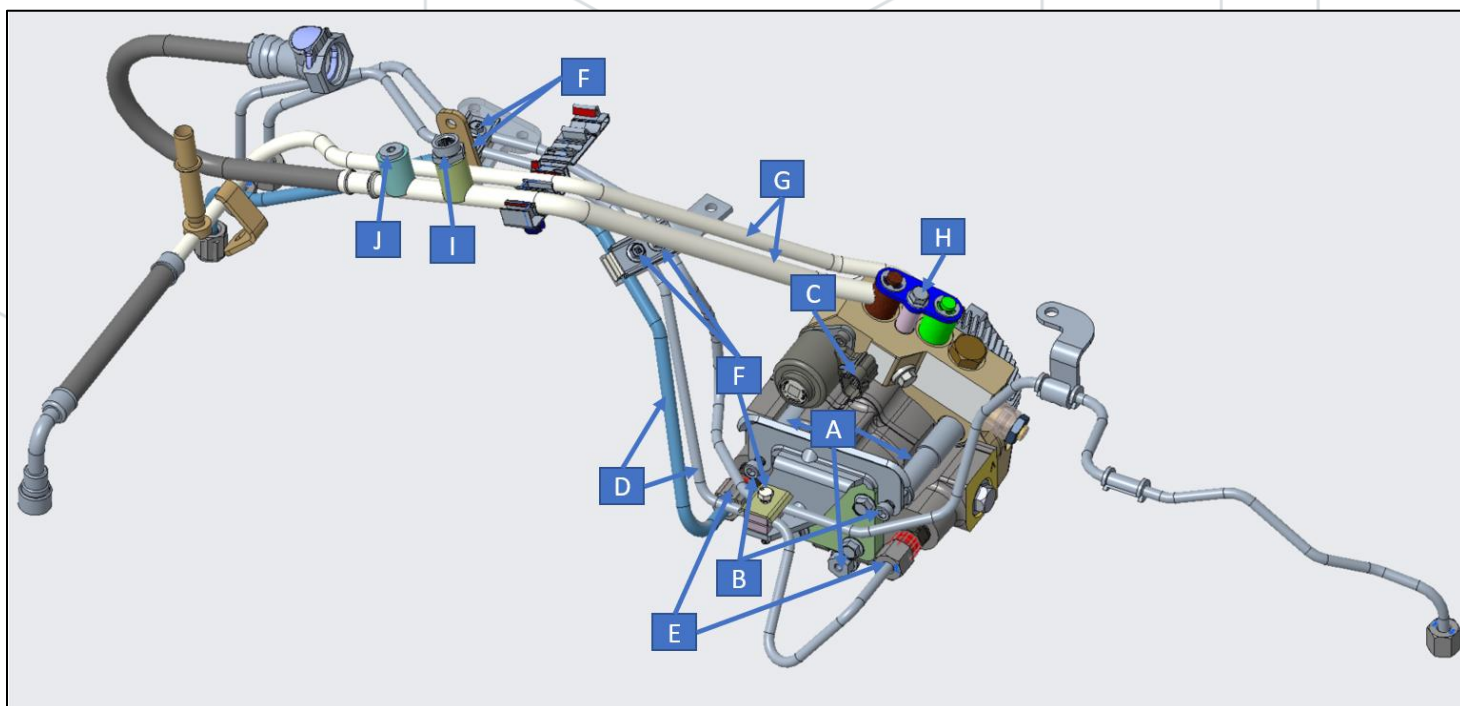

Figure 30: DCR Pump Assembly
11. Use the three OEM pump mounting stud / nuts to secure the pump in place (Labeled as A in Figure 30).
- c. Install the provided High-Pressure Fuel Line Tail Support Bracket to the OEM pump mounting nuts reusing the factory bolts (Labeled as B in Figure 30).
17. Connect the fuel control actuator (FCA / VCV) electrical connector to the pump (Labeled as C in Figure 30).
22. Install the supplied low-pressure line assembly into the DCR ports (Labeled as G in Figure 30).
- b. **Install blue thread-locker on the line assembly to pump inlet OEM hold-down bolt (H in Figure 30)**
25. Connect the electrical connectors on the sensors of the new fuel supply lines (Labeled as I and J in Figure 30).